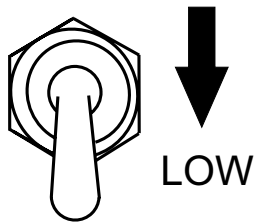

Figure 33. Engine Speed Switch (LOW)
2. Place the **Engine Speed Switch** (Figure 33) in the **LOW** position.